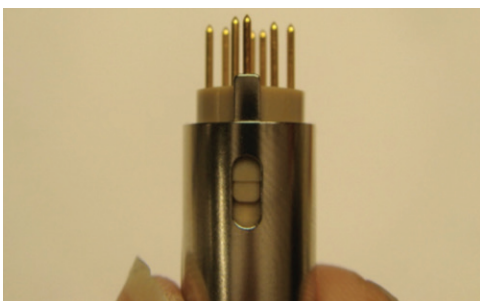

Figure 22: Seating the mid-piece
15. Align the two parts of the mid-piece, and hold them in place so you can complete the next several steps (Figure 22).